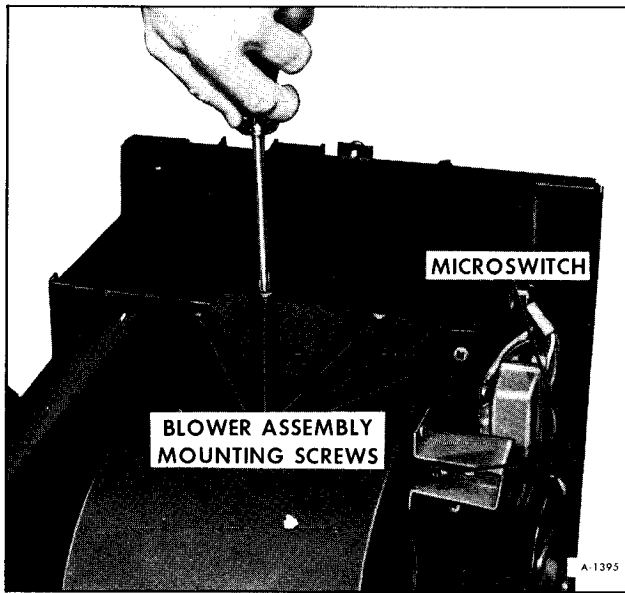

Figure 29—Removing Blower Assembly Screws
4. Remove the six screws holding blower assembly to furnace (See figure 29) (one at bottom of assembly).